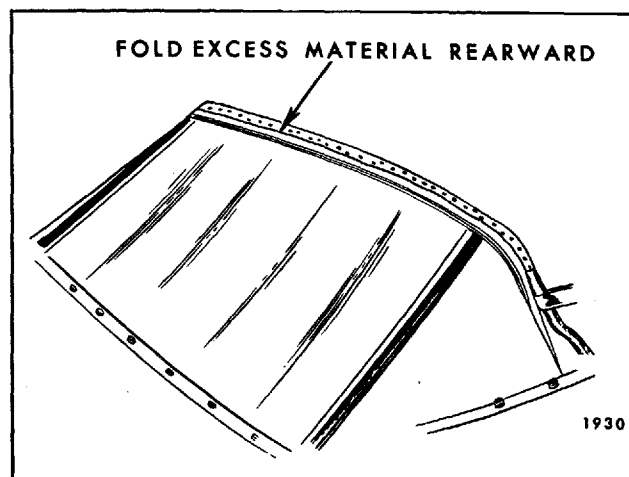

Fig. 6-20—Back Curtain Installed
15. Working from body center progressively out-board to right and left sides, tack back curtain upper valance to rear bow. Make sure all fullness has been drawn from curtain material (Fig. 6-20). Fold any excess back curtain upper valance material rearward and tack to rear bow.